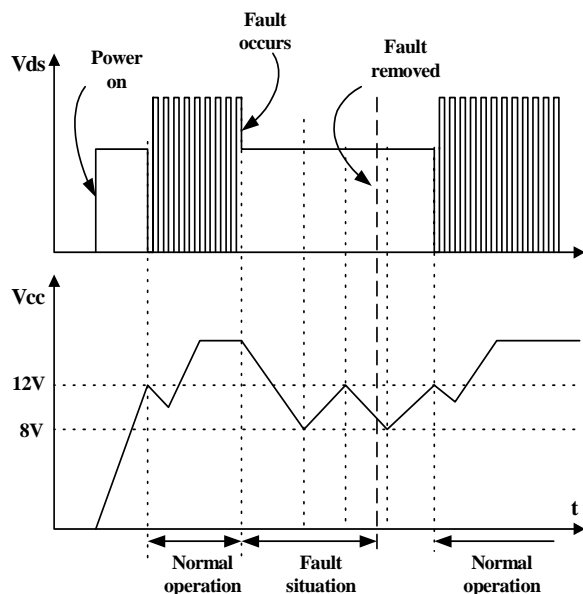

Figure 6. Auto restart operation
3. Protection Circuit : The FSDM07652R has several self protective functions such as over load protection (OLP), abnormal over current protection (AOCP), over voltage protection (OVP) and thermal shutdown (TSD). Because these protection circuits are fully integrated into the IC without external components, the reliability can be improved without increasing cost. Once the fault condition occurs, switching is terminated and the Sense FET remains off. This causes V_{cc} to fall. When V_{cc} reaches the UVLO stop voltage, 8V, the protection is reset and the internal high voltage current source charges the V_{cc} capacitor via the V_{str} pin. When V_{cc} reaches the UVLO start voltage, 12V, the FPSTM resumes its normal operation. In this manner, the auto-restart can alternately enable and disable the switching of the power Sense FET until the fault condition is eliminated (see figure 6).